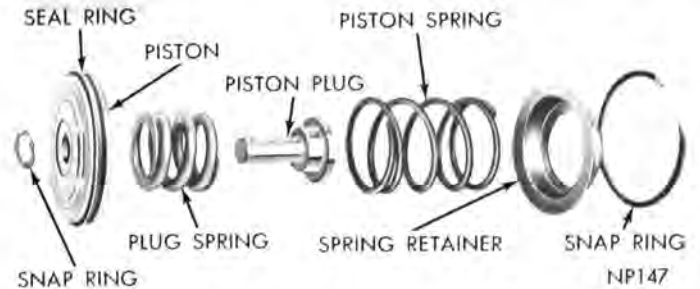
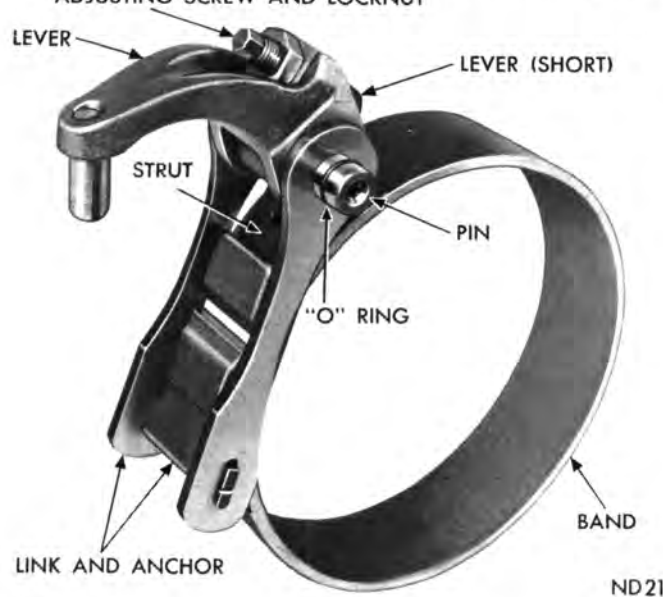

Fig. 95—Low and Reverse Servo
Fig. 97—Low-Reverse Band and Linkage
(1) Remove snap ring from piston and remove the piston plug and spring (Fig. 95).
(1) Carefully work servo piston assembly into the case with a twisting motion. Place spring, retainer and snap ring over the piston (Fig. 95).
(2) Compress low and reverse servo piston spring by using engine valve spring compressor Tool C-3422, then install snap ring.
(3) Position rear band in the case, install short strut, then connect long link and anchor to the band (Fig. 97). Screw in band adjuster just enough to hold strut in place. Install low-reverse drum.